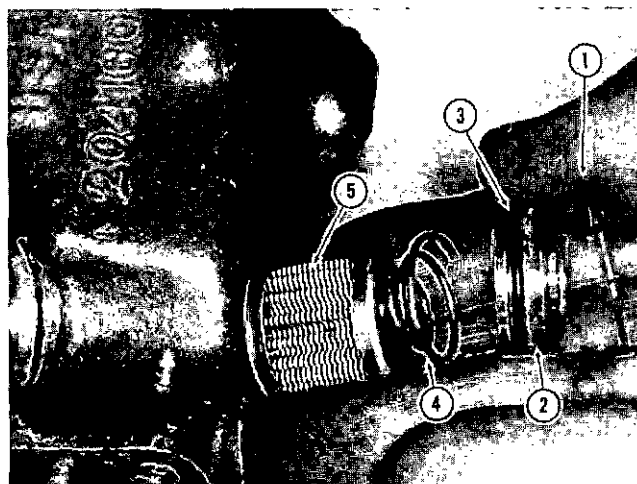

Fig. 2-55 (K11931) VS Fuel pump screen
1. Remove snap ring (1, Fig. 2-55) securing filter cap (2) from bottom rear of fuel pump housing.
2. Using a screwdriver or small pry bar remove cap with "O" ring (3), spring (4) and filter screen assembly (5) from housing. Discard "O" ring and screen assembly.
3. Lubricate new "O" ring (3) and position in groove of filter cap (2).
4. Position new screen assembly (5) on spring (4) and cap (2) install in bore of fuel pump housing.
5. Secure with snap ring (1).